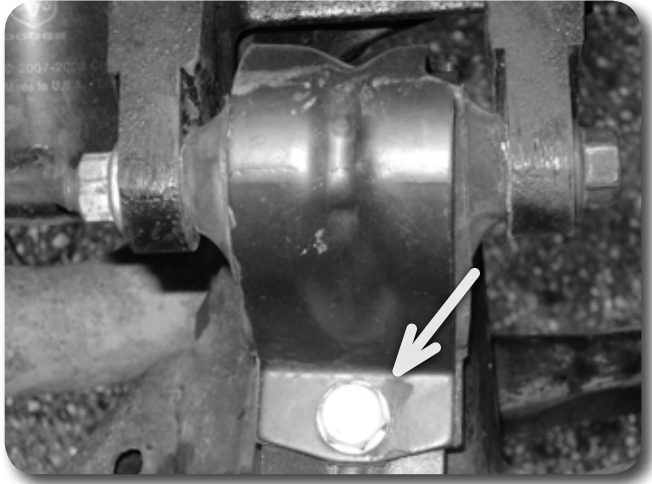
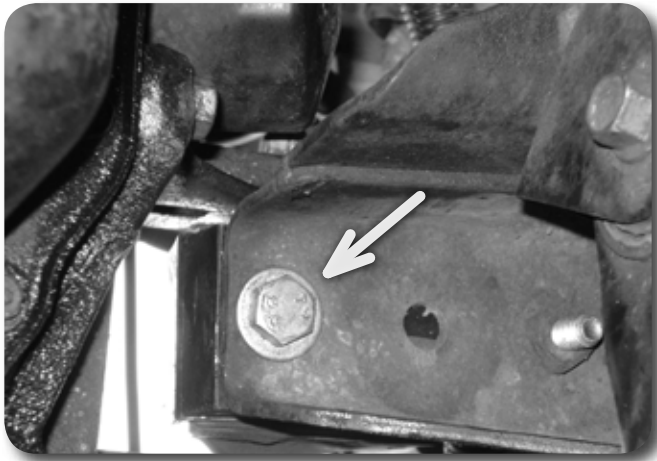

FIGURE 1a
FIGURE 1b
6. There is one fastener on the top side Figure 1a and one on the bottom Figure 1b of the engine mounts. Remove these from the passenger side motor mount using a 15 mm socket.